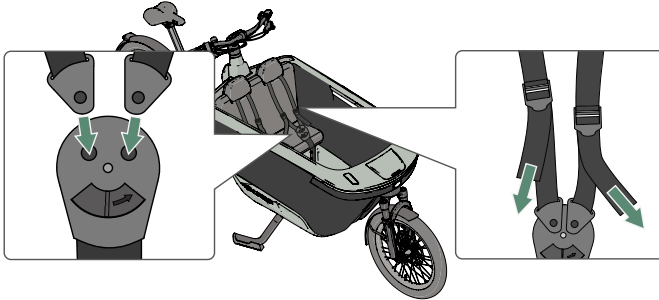

Figure 27 - Close the three-point seatbelts
4. Click the ends of the shoulder straps into the clasp, as indicated in figure 27.